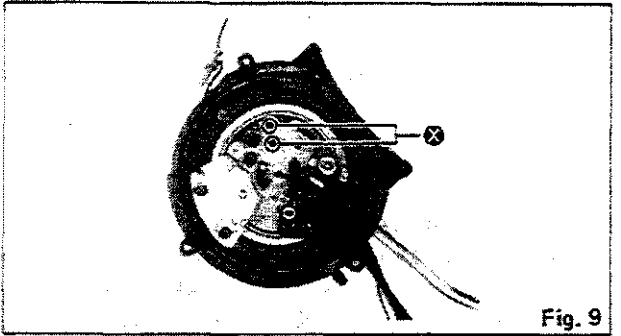

Fig. 9
23. Remove 2 screws **V** of the tone arm as shown in Fig. 9.